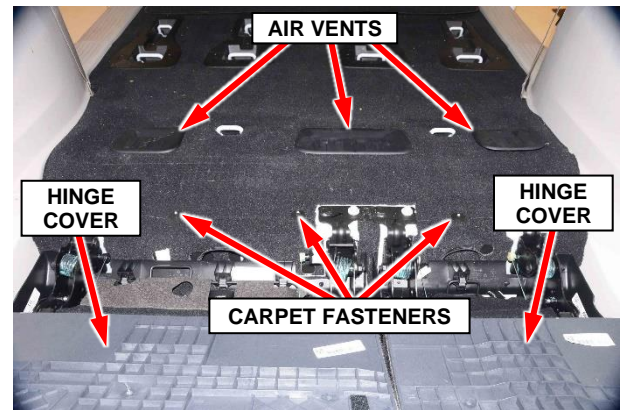

Figure 4 – Floor Carpet
3. Fold the hinge covers back to expose the carpet fasteners (Figure 4).
4. Remove the carpet fasteners (Figure 4).
5. Remove the three floor air vents by lifting up on the rear facing edge to release the push pin retainers (Figure 4).